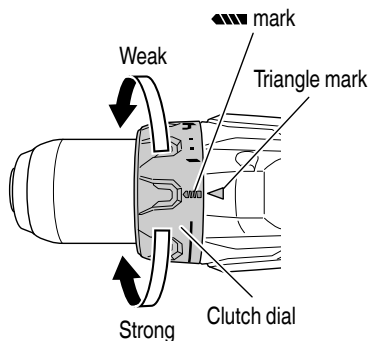

Fig. 11
- Confirm the clutch dial position (See Fig. 11).
- (2) Tightening torque indication (See Fig. 11, 13)
- (3) Adjusting the tightening torque (See Fig. 11, 13)